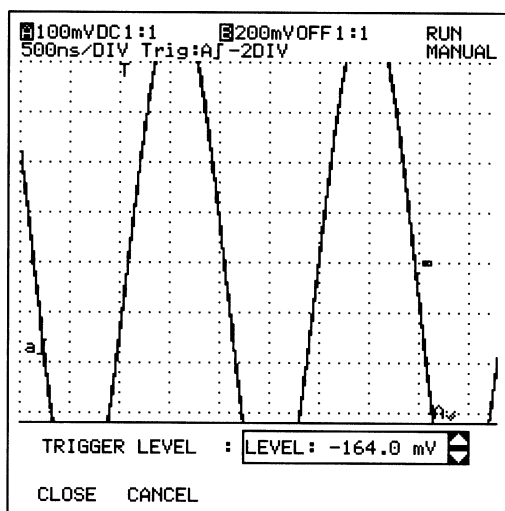

Figure 4.9 Trigger level control
The trigger level value is displayed. The trigger level marker (A) will shift while adjusting the trigger level. See figure 4.9